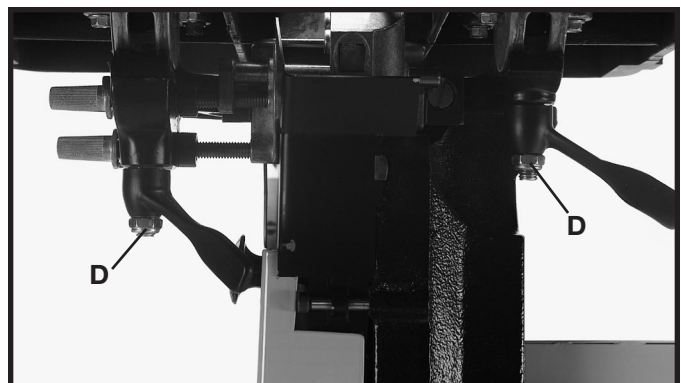

Fig. 30
4. Thread a 7/16" locknut (D) Fig. 30, onto each stud. Tighten each locknut up to the table handle and then loosen each locknut a 1/2 of turn.